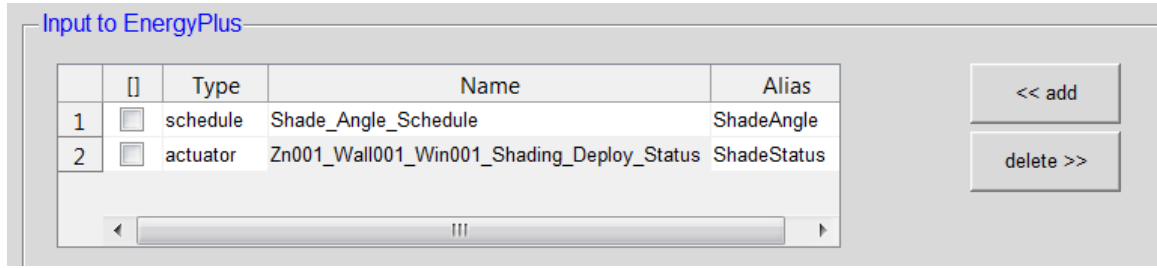
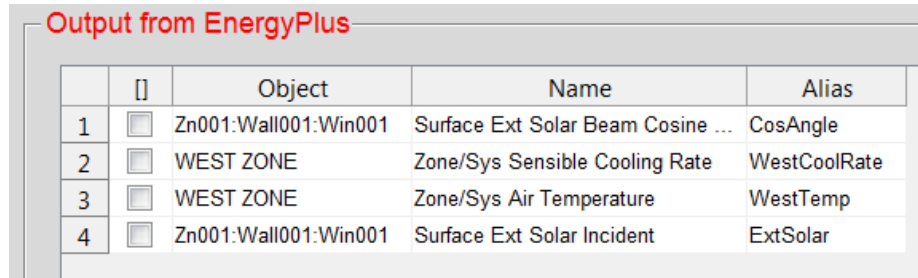

Figure 7: Configuration of input variables to EnergyPlus.
Figure 8: Configuration of output variables to EnergyPlus.
4. Add the necessary inputs and outputs to have the settings specified in Figure 7 and Figure 8, respectively. In this example, we specify **Shading\_Deployment\_Status** and **ShadeAngle\_Schedule** as the inputs to EnergyPlus as these are the variables that we will control through MLE+. Make sure your configuration is exactly the same as the one shown in Figure 7 and Figure 8.
In MLE+, an alias is specified for each of the communication variables (Figure 7 and Figure 8). The alias allows the user to reference a variable with a more intuitive name and avoid the intricate names specified by EnergyPlus. For instance, the EnergyPlus variable `Zn001_Wall001_Win001_Shading_Deployment_Status` can be assigned a more intuitive name as `ShadeStatus`.